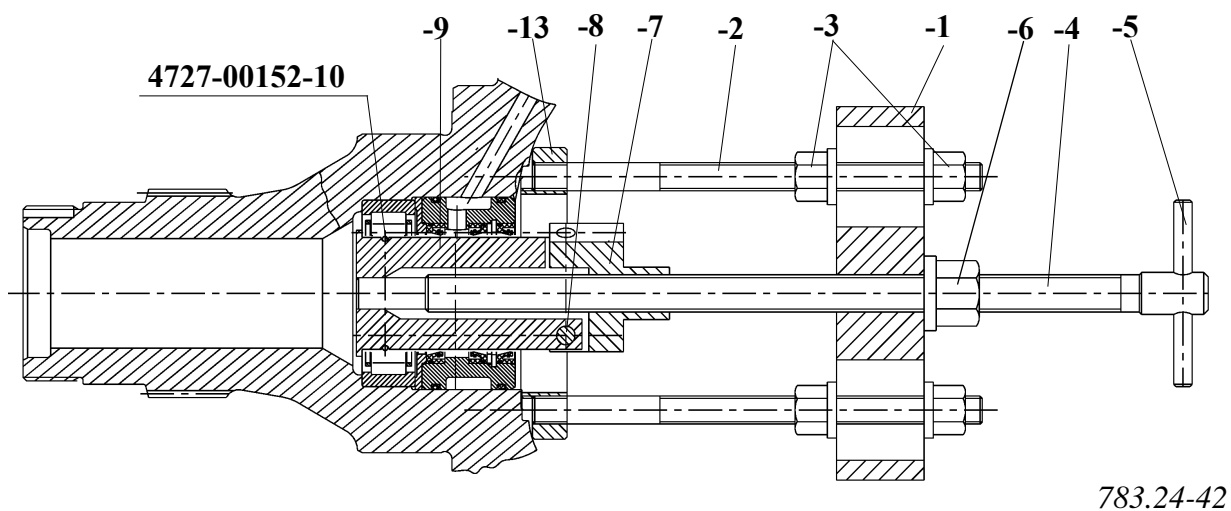

Fig. 1.: PULLING OUT THE CYLINDRIC ROLLER BEARING
Pull out the cylindrical roller bearing (93) together with seal retaining ring (see. Fig. 1.)